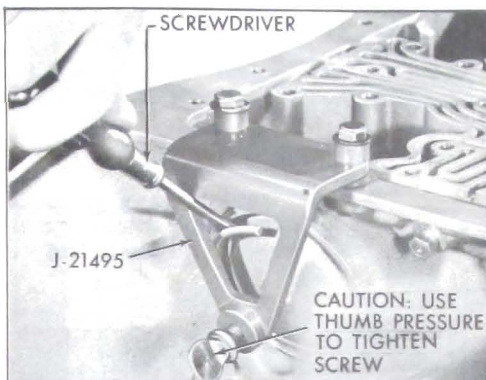

Figure 5-123
2. Remove low servo cover snap ring. Use Tool J-21495 to compress servo cover so snap ring can be removed. See Figure 5-123.